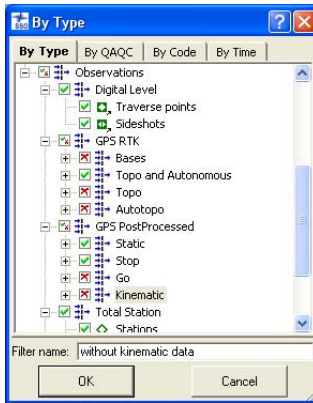

Figure 4-46. Select By Type Filter
To hide/display data based on its type, select the *By Type* tab on the *By Type* dialog box (Figure 4-46 on page 4-47).
1. On the *By Type* tab, click the desired check marks to filter data and data types (Figure 4-46 on page 4-47).